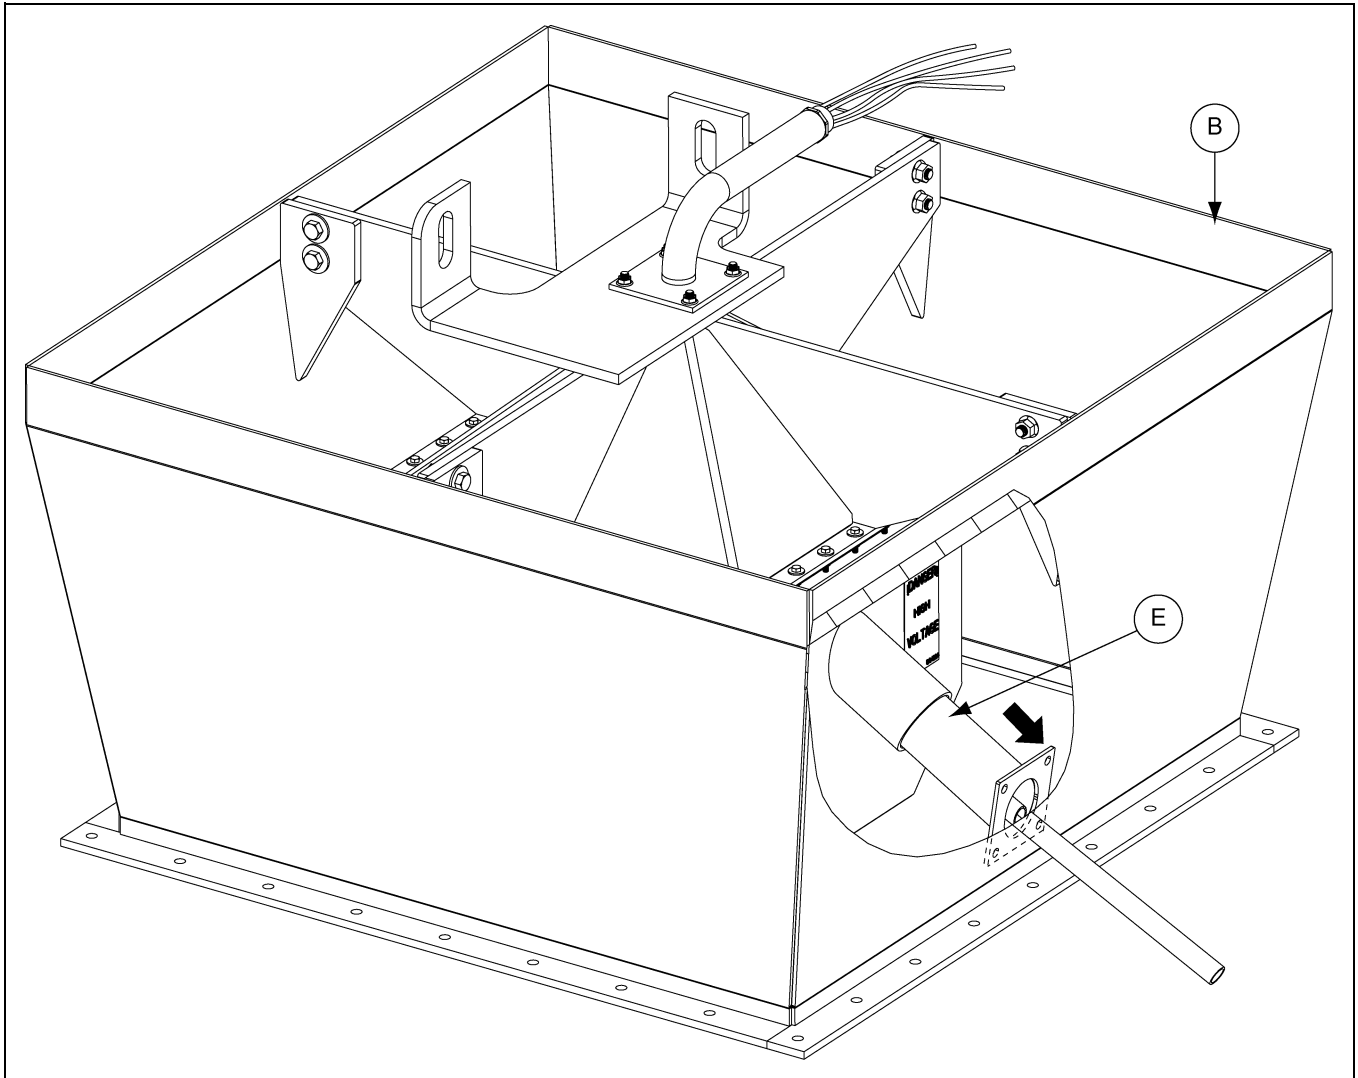

Figure 4I
8. Remove all adhesive tape, allowing the lower flex conduit tubes (E) to slide and rest against the walls of the center well (B). *(See Figure 4I.)*
9. Weld each lower flex conduit tubes (E) to the sides of the center well (B).